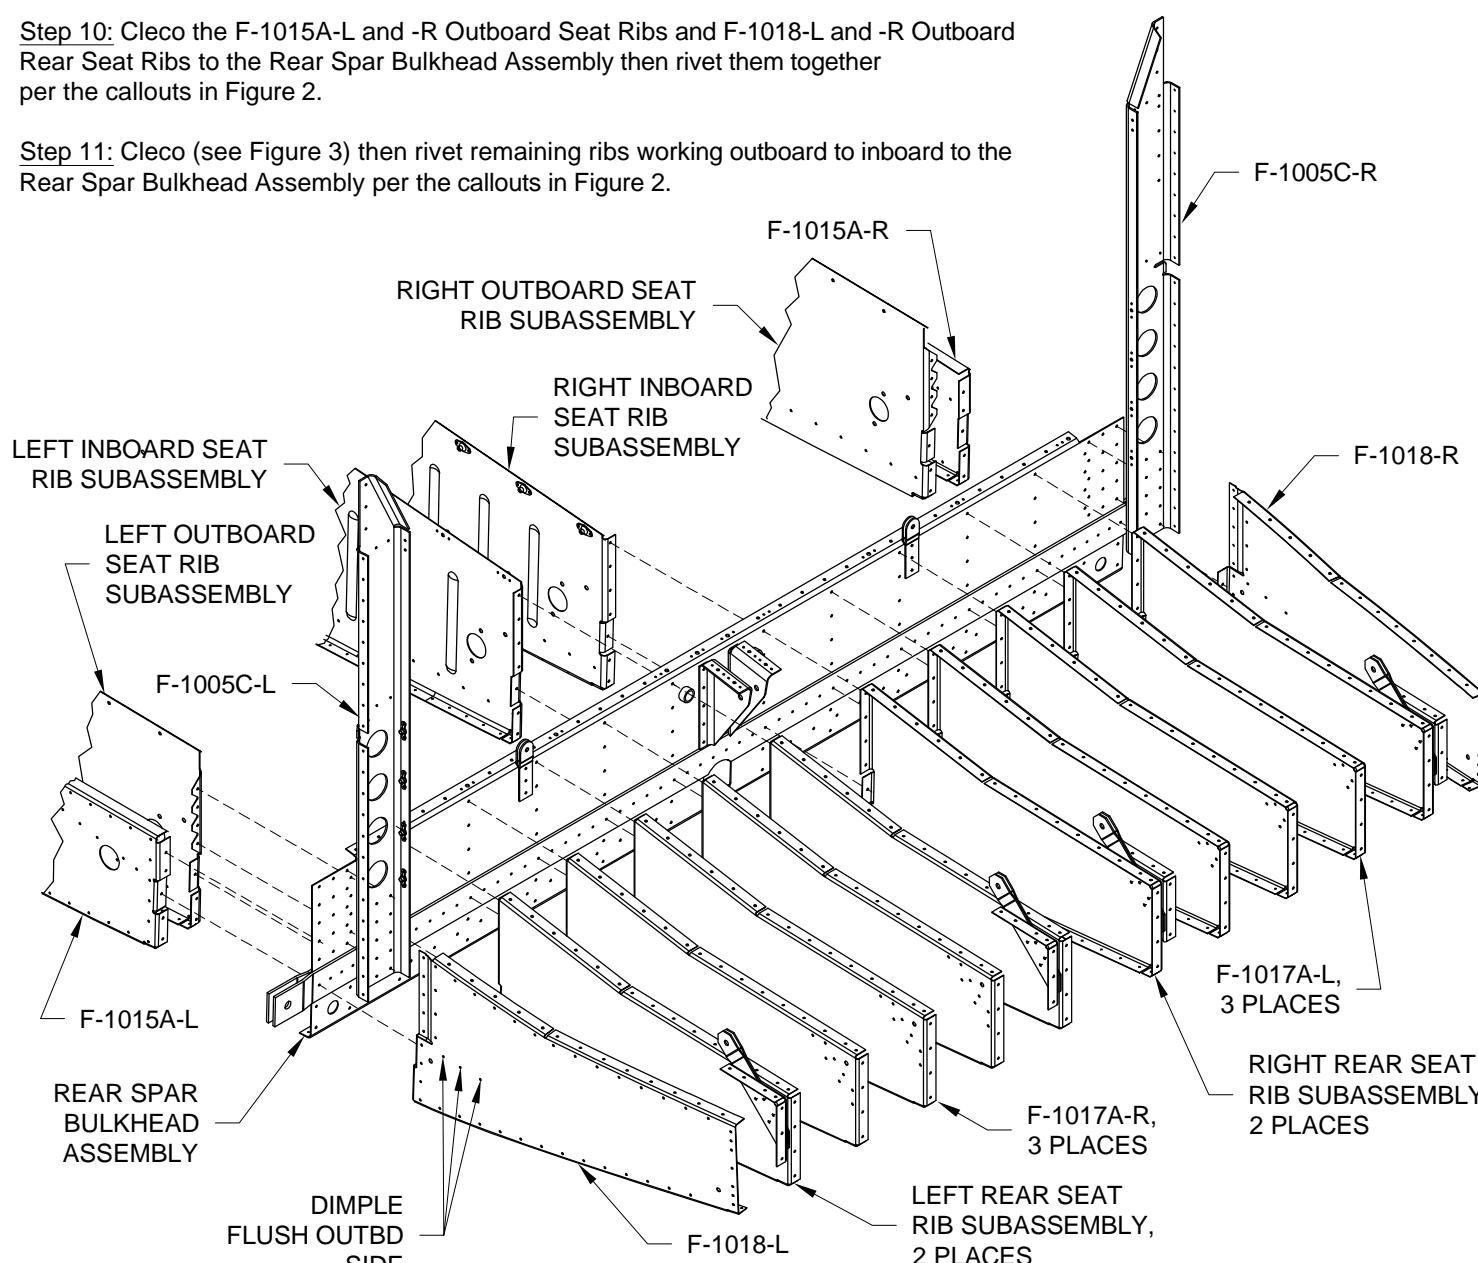

FIGURE 3: RIB ATTACH TO REAR SPAR BULKHEAD
Step 1: Dimple all #40 holes in the web of the F-1015A-L Outboard Seat Ribs. Flute the lower flange of the F-1015A-L ribs until the holes in the rib match the corresponding holes in the F-1076 Center Bottom Skin. Cleco the outboard seat ribs and Inboard Seat Rib Subassemblies to the Rear Spar Bulkhead Assembly as shown in Figure 2 and Figure 3. Final-Drill #30 all the holes common between the ribs and the rear spar bulkhead. Uncleco the outboard seat ribs and inboard seat rib subassemblies.
Step 2: Uncleco the F-1005C-L and -R Bulkhead Side Channels from the Rear Bulkhead Assembly. Cleco then final-drill #30 Left and Right Outboard Seat Rib Subassemblies to the rear spar bulkhead assembly as shown in Figure 3. Uncleco the outboard seat rib subassemblies from the rear spar bulkhead assembly. Note that the rivets that attach this flange to the rear spar bulkhead assembly are AN426AD4 rivets and that the flush head goes on the aft side of the rear spar bulkhead assembly underneath the F-1005C-L and -R Bulkhead Side Channels, see Figure 2. Deburr and dimple these holes now for the head of an AN426AD4 rivet. Cleco the bulkhead side channels back in place.
Step 5: Cleco the F-1017A-L and -R Rear Seat Ribs, Left and Right Rear Seat Rib Subassemblies and F-1018-L and -R Outboard Rear Seat Ribs to the to the Rear Spar Bulkhead Assembly as shown in Figure 2 and Figure 3. Final-Drill #30 all the holes common between the ribs and the rear spar bulkhead.
Step 6: Disassemble and deburr all parts. Final-Drill #40 and dimple the 3/32 holes in the web of the F-1018-L and -R Outbd Rear Seat Ribs **except** the holes common to the F-1005C-L and -R Bulkhead Side Channels and the aft row of holes. Dimple the three #30 holes in the web of F-1018-L and -R as shown in Figure 3. Prime parts if/as desired.
Step 11: Cleco (see Figure 3) then rivet remaining ribs working outboard to inboard to the Rear Spar Bulkhead Assembly per the callouts in Figure 2.